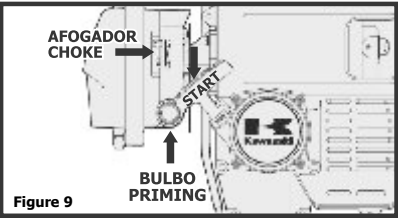

Figure 9
b) Press around 8 times the bulb - Figure 9 - in order to fill the carburetor with gasoline;
c) Place the choke lever in the closed position (| / |) - Figure 9
e) Pull the starting cord until you feel resistance and then pull firmly to start the engine (Figure 9) and then return the choke lever to the open position (| | |) in order to allow the engine to operate normally.